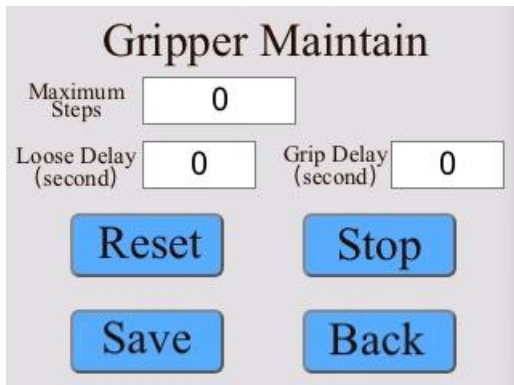

Fig.7
- (4) Claw Motor: The interface is shown in Figure 7.
- (5) Shaft Motor: Turning 1 rotation (STEP) corresponds to the "Rotations" option, and the purpose is to fine-tune the locking strength. If you still haven't locked the cap after 2 rotations, or if you've locked it too tightly after 3 rotations, you can increase the value of "Turn 1 rotation (STEP)" appropriately.